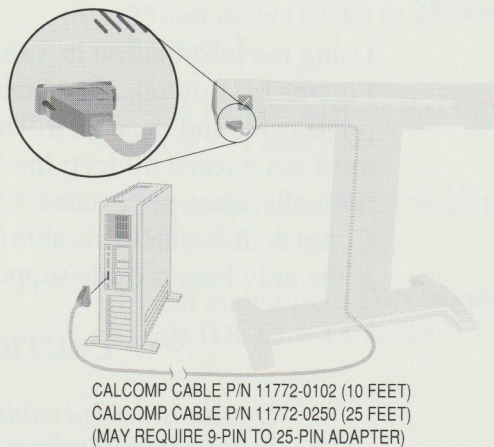

Figure 2-4. RS-232C (Serial Port) with IBM PS/2 or Equivalent
- IBM PS/2 or equivalent (Figure 2-4)